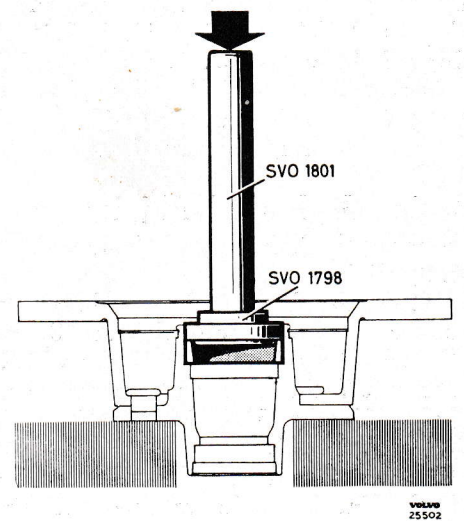

Fig. 13. Fitting the outer bearing ring.
7. Press in the new bearing rings. In addition to the standard handle SVO 1801, drift SVO 1798 (Fig. 12) is used for the inner bearing ring and drift SVO 1797 (Fig. 13) for the outer bearing ring.